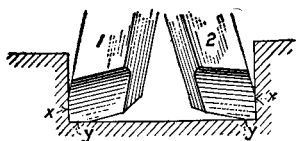

Fig. 2-55. Tool bits for finishing square-shoulder cuts. Surfaces  $x$  and  $y$  are at an angle of 90 deg. or a trifle less.
faces there is usually left a thousandth or two for the fitter to file or scrape off. For the distance from the surface *a* to surface *b* the graduations on the downfeed screw may be accurate enough, or if desired a size block (Fig. 2-53) may be used.2 If the work is cast iron, the tool illustrated in Fig. 2-54 may be used for finishing all the surfaces *a*, *b*, and *c*. If the work is steel, the finishing tools for the corners (and also for the bottom surfaces) may be shaped like (1) and (2) in Fig. 2-55. The cutting edges for side and bottom are represented by *x* and *y*, respectively. These tools are given 15- or 20-deg. side rake.
3. For the larger jobs the shoulder tools (Fig. 2-55) are best. Set over the apron according to the rule on page 61.
When finishing the bottom of the groove with shoulder tools (Fig. 2-55), finish half or more with one tool and the remainder when the apron is reset and the tool changed.